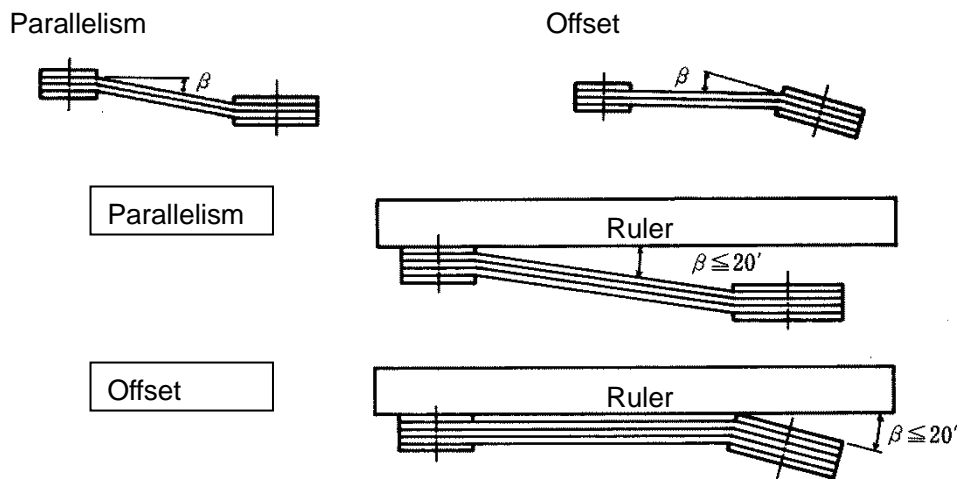

Fig.1 Parallelism and Offset
- (1) Remove belt cover.
- (2) Loose the old belt as loosening the nuts fixing the motor, remove the belt.
- (3) Install the new belt. If multiple belts are used, it is recommended to use “matched set” of which the circumference length is the same.
- (4) Adjust the parallelism and offset as putting a ruler on motor pulley and blower pulley, at the same time, adjust deflection as you give tension at the center of the span to the belt. (Fig.1 and 2)